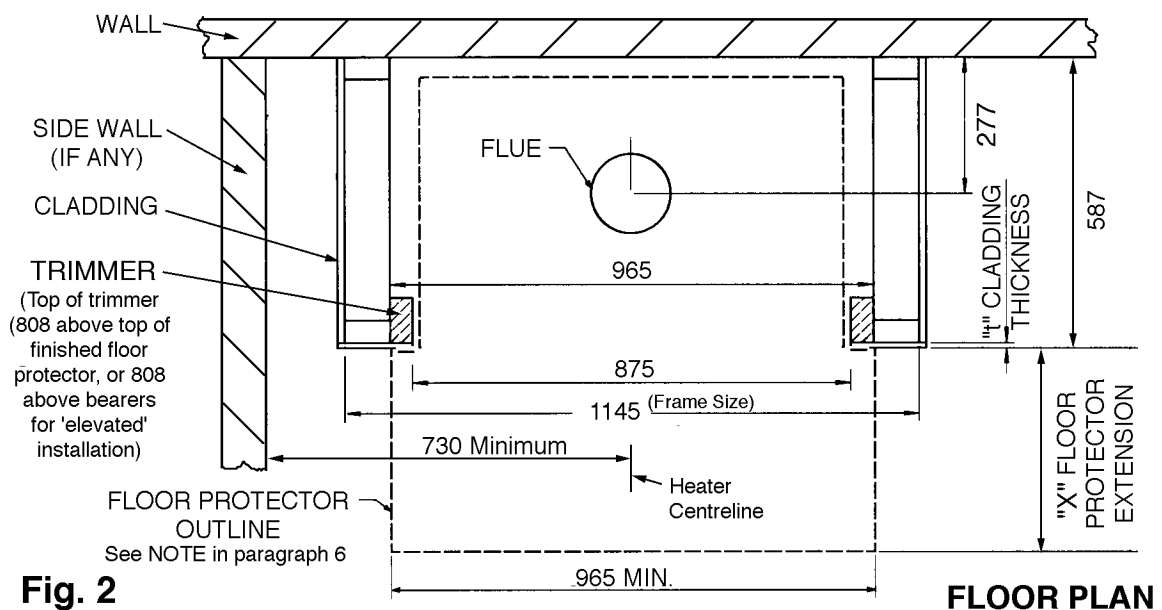

Fig. 2
1. Inspect the house construction at the proposed installation position to verify that the flue shield (250mm diameter, plus 25mm clearance all around) can pass right up through the ceiling space without requiring the removal of essential roof or ceiling support beams. The flue centreline will be 277 mm out from the rear wall and it must be at least 730mm distant from any side wall. (See Fig. 2).
6. For heat sensitive floors, construct a floor protector of the shape shown in the Floor Plan above (Fig. 2). (See page 4 for concrete floors). The standard floor protector is constructed of two layers of 6mm fibre cement board (such as Hardies Tile and Slate Underlay), topped with a layer of tiles or slate. This will give a thickness of approximately 20mm, and the extension from the face of the front cladding must be at least 440 mm. The floor protector must be at least 965 mm wide.